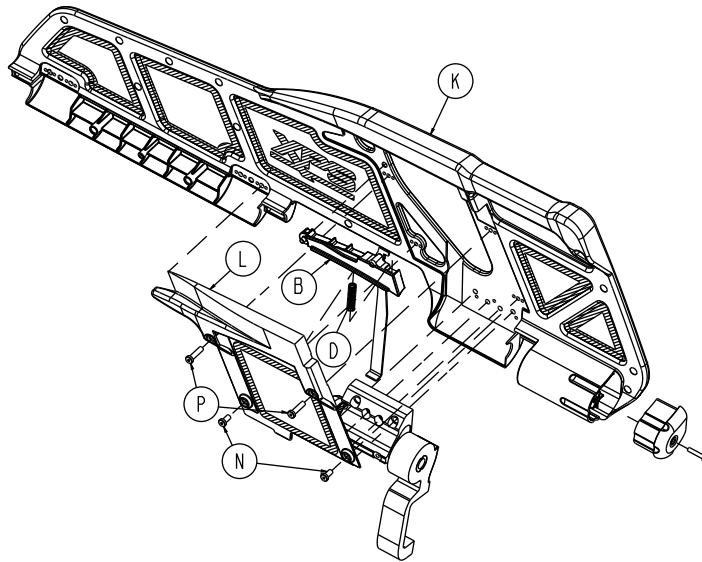

Figure 24 – Release/spring handle assembly components (XPS)
- Using a 3/32" hex wrench, remove the four socket head cap screws (N and P) that secure the release cover (L) to the overmold assembly (K) (Figure 24). Remove and save the release cover. Save the screws.
- Using a small slotted screwdriver, pry the handle spring (D) up. Remove and save the spring.
- Grasp the handle assembly (B) and lift the handle spring side to remove from the cover. Discard the handle assembly.
5. Using a 3/32" hex wrench, remove the four socket head cap screws (N and P) that secure the release cover (L) to the overmold assembly (K) (Figure 24). Remove and save the release cover. Save the screws.
6. Using a small slotted screwdriver, pry the handle spring (D) up. Remove and discard the spring.